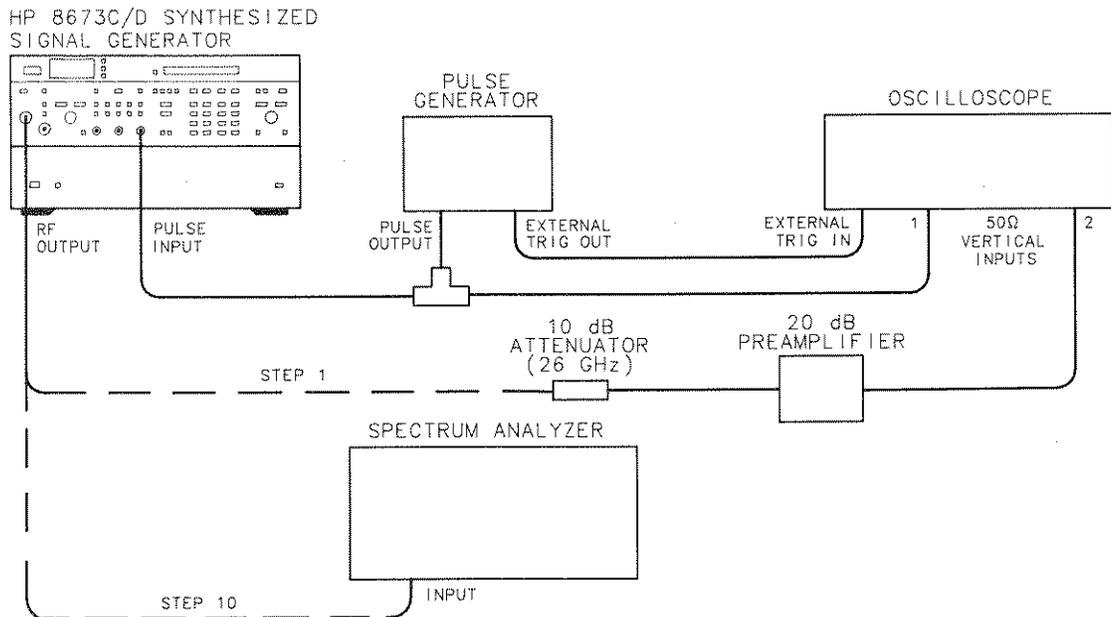

Figure 4-4. Low Frequency Pulse Test Setup
1. Connect equipment as shown in Figure 4-4.
10. Disconnect the RF output from the 10 dB attenuator and amplifier. Connect the Signal Generator to the input of the spectrum analyzer as shown in Figure 4-4.